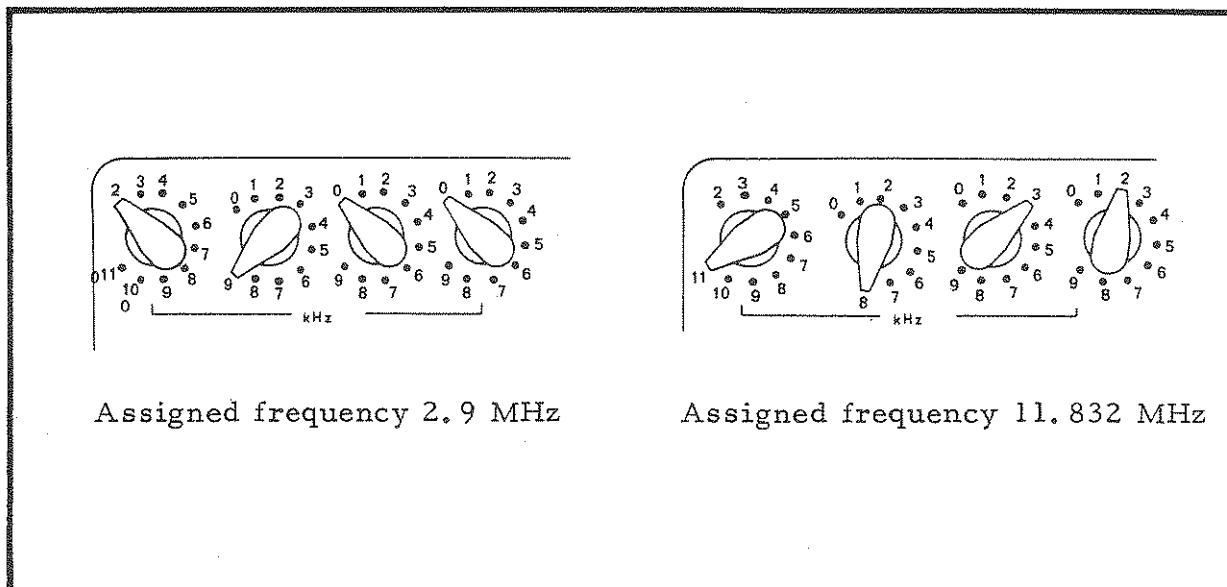

FIG 45
- b. Set the frequency using the four kHz switches beginning with the left hand switch. If the assigned frequency has five digits (higher than 9999 kHz) the first two digits (10 or 11) are set on the left hand switch. The switch settings for 2900 and 11832 kHz are shown in Fig 45.